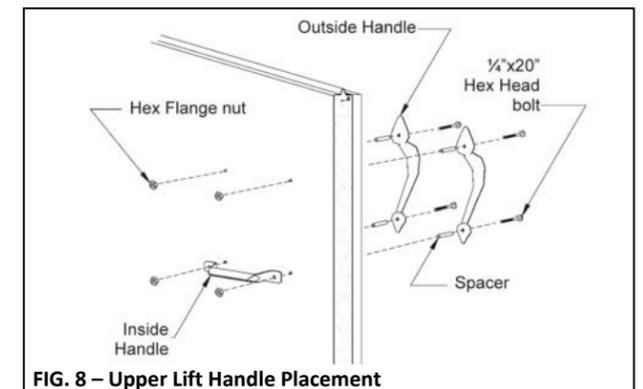

FIG. 8 – Upper Lift Handle Placement
**Step 6:** Take the two vertical ornamental handles and position on the 2nd section. Using the handles as a template, mark the holes to be drilled. With the sections stacked, the lower hole on each vertical handle must lie between 20" and 30" vertically from the holes on the bottom handle. The holes on each vertical handle should be centered 5-1/2" horizontally from each other. The holes on both vertical handles should line exactly with the holes on the bottom horizontal handle. No hole may be closer than 2" to the top or bottom of the section (See Fig. 8).
**Step 10:** Attach each vertical ornamental handle (outside) and one steel horizontal roll grip handle (inside) to the door using two 1/4" black painted hex head bolts, and two 1/4" hex nuts. Use a set of hex head bolts and hex nuts to fasten the vertical handles to the door through the remaining holes. The inside handle may be matched with either set of holes so long as it is no closer than 4" to the top or bottom of the section (See Fig. 8).